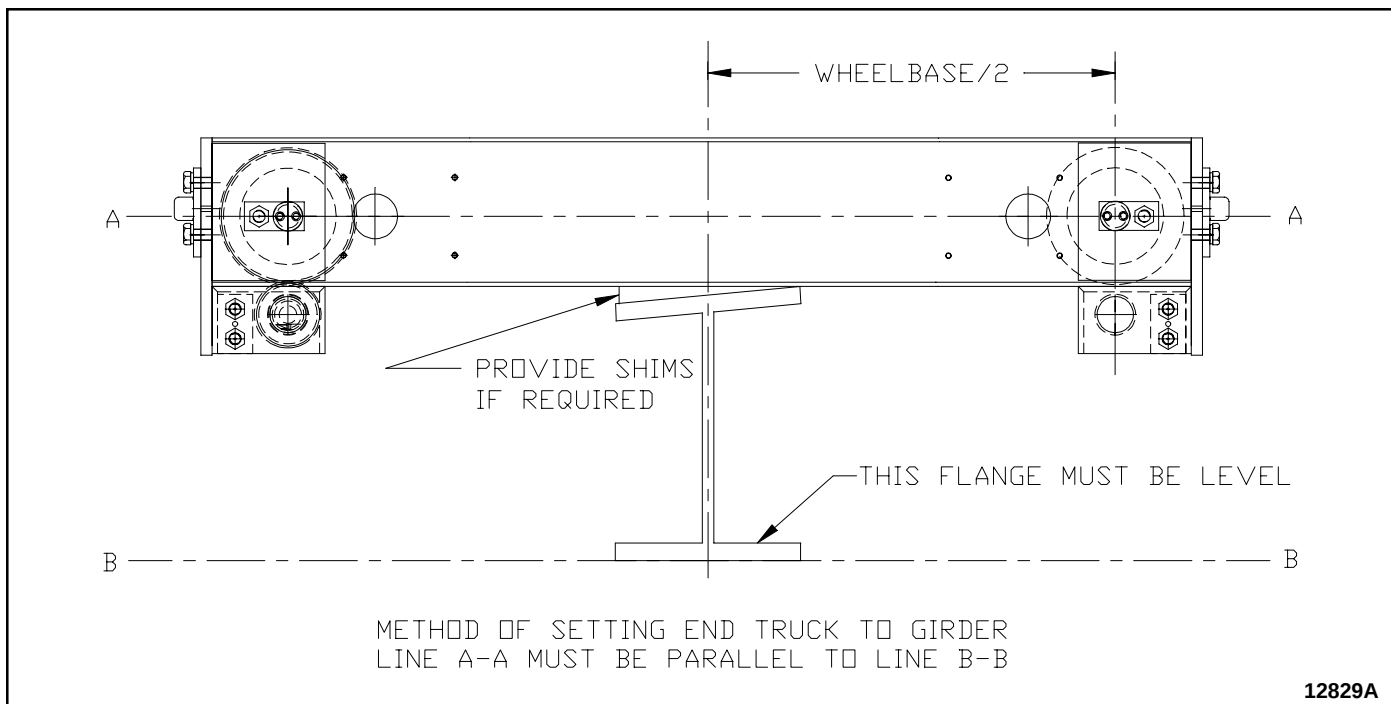

Figure 4.
- Refer to Figure 4.,
9. Square trucks on top of girder and securely clamp in place. Shim, if necessary to keep the bottom flange of the girder level (See Figure 4). To check the distance between trucks, measure from the back of the inside channel at one end of the span to the back of the outside channel at the other end of the span. This distance should equal the span. Check at both ends of the trucks to assure truck alignment.